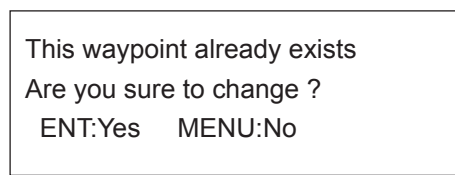

Figure 5-7
- ① Press **WPT RTE** and **5** to display the route list.
- ② Press **▲** or **▼** to select route number entered.
- ③ Press **►**.
- ④ Enter waypoint number, in three digits.
- ⑤ Press **▼**. If the waypoint number already exists the message shown in Figure 5-7 appears.